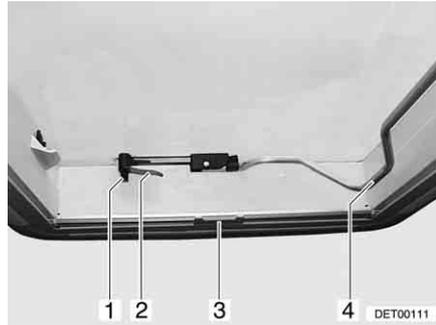
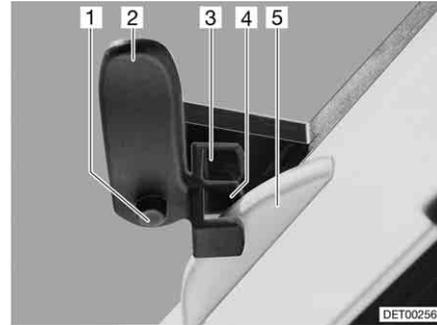

Fig. 74 Heki skylight, closed
Fig. 75 Heki skylight in ventilation position 1
- Press the safety knob (Fig. 74,1) and turn the catch lever (Fig. 74,2) one quarter turn inward.
- Pull the bar (Fig. 74,4) downwards out of the latch.
- Turn the catch lever (Fig. 74,2 and Fig. 75,2) one quarter turn. The hook of the roof lock (Fig. 75,5) must engage in the upper locking fork (Fig. 75,3).
- Press the safety knob (Fig. 75,1) and turn the catch lever (Fig. 75,2) back. The hook of the roof lock (Fig. 75,5) must engage in the lower locking fork (Fig. 75,4).